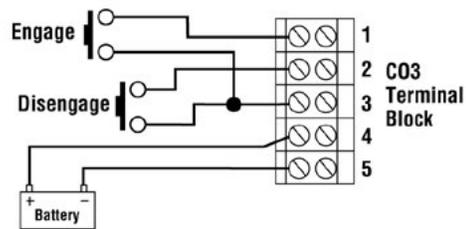

Figure 4: CO3
Refer to Figure 4.
2. Remove the clutch lever and reposition it approximately 45 degrees from vertical, toward the rear of the clutch (Figure 4).
4. Place the CO3 in direct line with the clutch lever until the inner roller touches the clutch lever at an approximate 90 degree angle (See detail in Figure 4).
5. Bolt the CO3 to the stabilizer arm to hold the angle of incidence to the clutch arm (Figure 4).